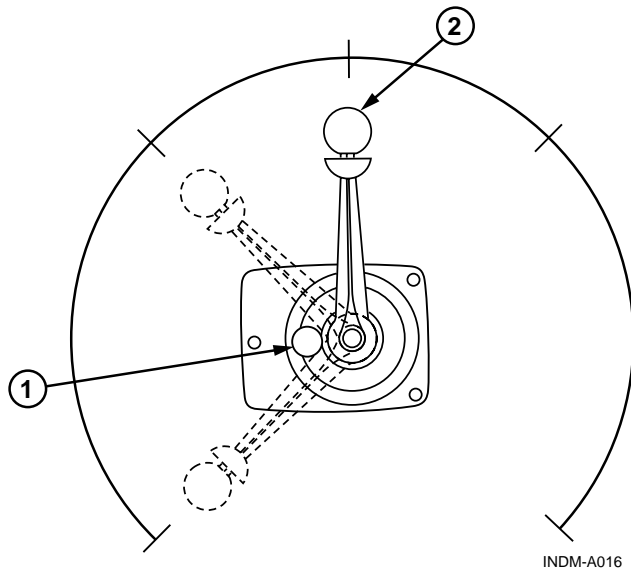

Figure 3.4 – Shift/Throttle Lever
1. Check throttle lever (1, Figure 3-4) to make sure it is pulled out (or Neutral lockout button, 2, activated) so that boat is still in NEUTRAL.